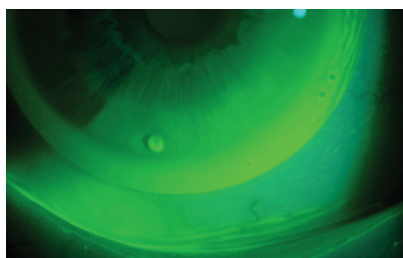

Figure 4 Flat periphery
It is important that the peripheral curve (PC) fits properly as this will often determine the success of your fit. The lens should be aligned all the way around the edge, with no stand-off and no scleral impingement/vessel blanching. Patient comfort will tell you a great deal about the fit of the PC. An 'edgy' lens usually indicates a flat periphery (Figure 4). Insert steeper or flatter lenses until you have achieved